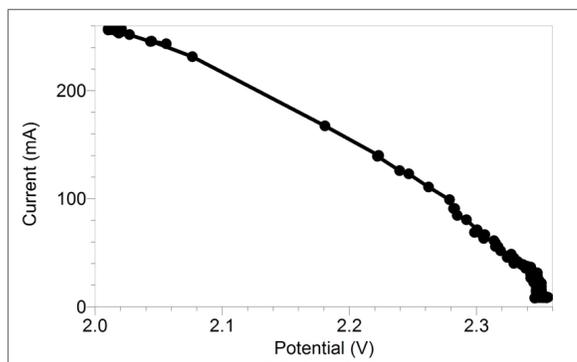
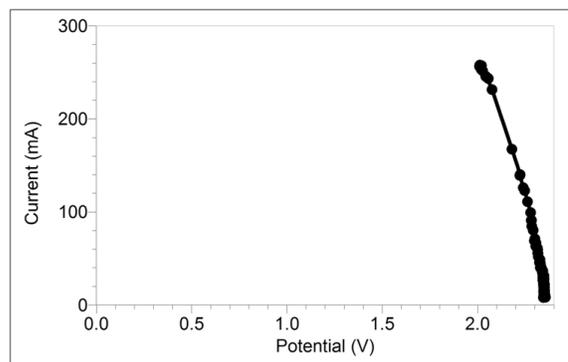

Figure 1
Figure 2
4. Experiment 18B, it is important that students collect data at high resistances and low resistances. If they collect data only at high resistances (for example, with the Variable Loads in series), it can appear that they have a full range of data (Figure 1), when in fact they do not (Figure 2).